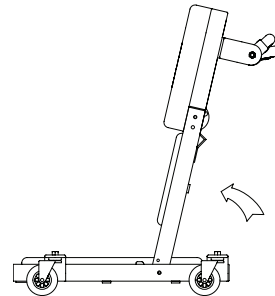

Figure 1 - Low seat configuration
1. Locate and unlock spring loaded Locking Pin for middle section by pulling out until disengaged. Then rotate Head Frame and Middle Frame upward as shown in Fig. 1 until the Locking Pin can engage hole in Creeper Seat locking plate (ensure Lock Pin is fully engaged). This is the low seat configuration.